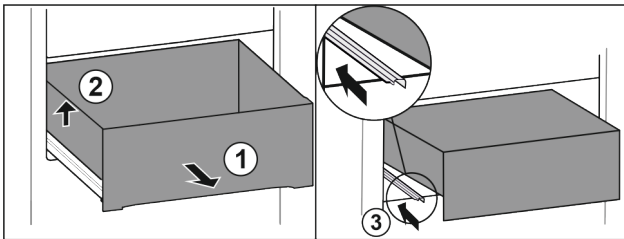

Fig. 62
- ▶ Pull out drawer as far as it will go. Fig. 62 (1)
- ▶ Lift drawer on the left. Fig. 62 (2)
- ▶ Insert left rail. Fig. 62 (3)